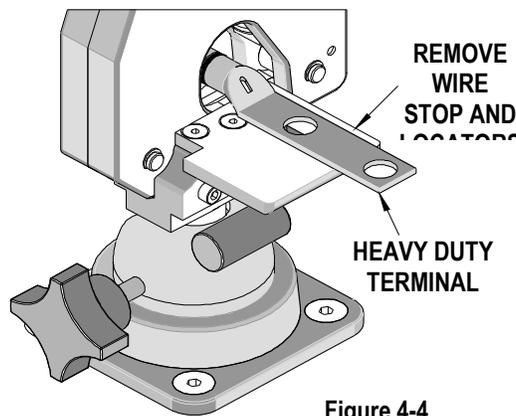

Figure 4-4
4. If the terminal is too big or the barrel of the terminal has a closed end, take off the locators and the wire stop. Position the terminal in the center of the jaws. Insert the properly stripped wire visually into the terminal barrel, as shown in Figure 4-4.